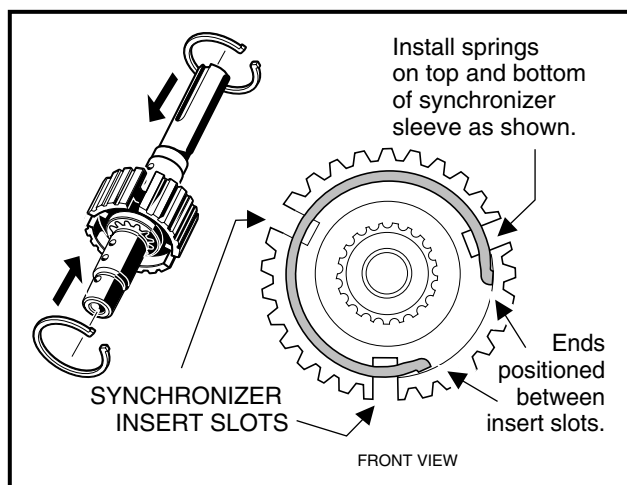

Figure 7-29 Synchronizer Springs
- 1.2. Install the synchronizer springs (49) (**Figure 7-16, Page 7-9**) in the sleeve (**Figure 7-29, Page 7-16**).
NOTE: Make sure the ends of the springs are positioned between the synchronizer insert slots (**Figure 7-29, Page 7-16**).
- 2.2. Install the synchronizer springs (49) (**Figure 7-17, Page 7-10**) in the sleeve (**Figure 7-29, Page 7-16**).